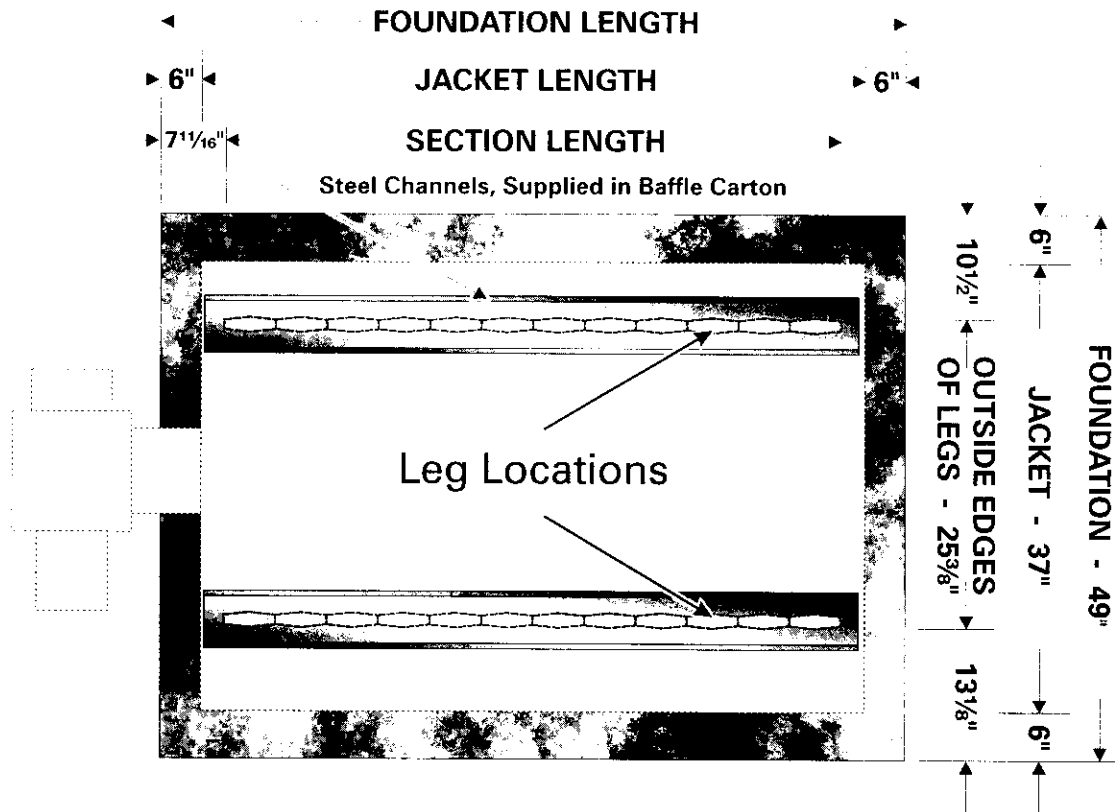

Figure 4: Foundation Layout
1. If the boiler room floor is not level or if additional structural support is needed, provide a good, level foundation for the boiler with the minimum dimensions given in Table 1. The flooring and structural support system must be suitable for the operating weight of the boiler and any connected piping. Place the Steel Channels on the foundation as shown in Figure 4.